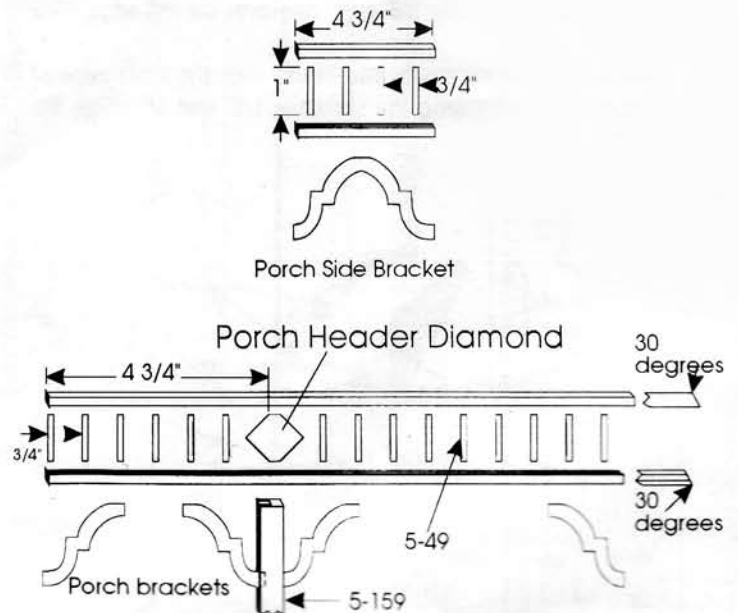

Figure 36
- f. Assemble Porch Header using 5-70, 5-49, and Porch Header Diamond, and Porch Brackets (Sheets- 5,17) as shown in Figure 36.